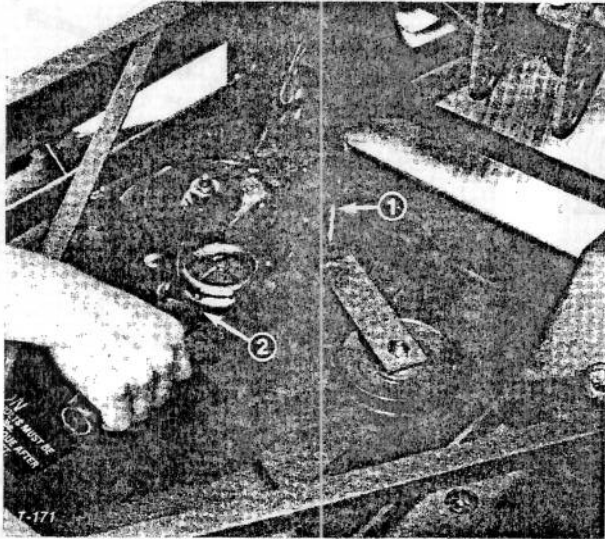

Figure 103
3. Loosen two nuts securing idler plate in place (Fig. 103). Using a socket and torque wrench, tighten the idler adjusting nut (Fig. 103) until proper torque value is achieved.
(Fig. 103). Release the idler adjusting nut and install cover with capscrews and lockwashers.